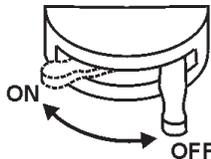

Figure 56. Battery ON/OFF Switch (OFF)
6. Place the battery ON/OFF switch (Figure 56) in the **OFF** position.
This indicator (Figure 56) is attached to the air cleaner. When the air cleaner element is clogged, air intake restriction becomes greater and the dust indicator signal shows **RED** meaning the element needs changing or service. After changing the air element, press the dust indicator button to reset the indicator.